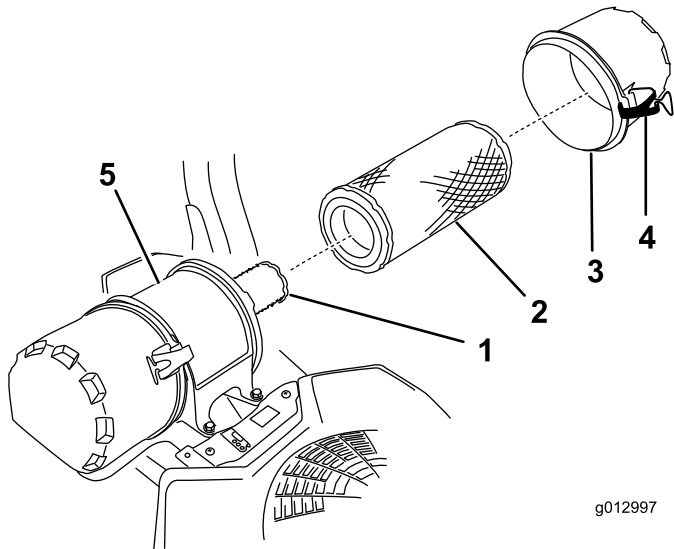

Figure 32
6. Release the latches on the air cleaner and pull the air-cleaner cover off the air-cleaner body (Figure 32).
8. Gently slide the outer filter out of the air-cleaner body (Figure 32).
2. If you are replacing the inner filter, carefully slide it into the filter body (Figure 32).
3. Carefully slide the outer filter over the safety filter (Figure 32).